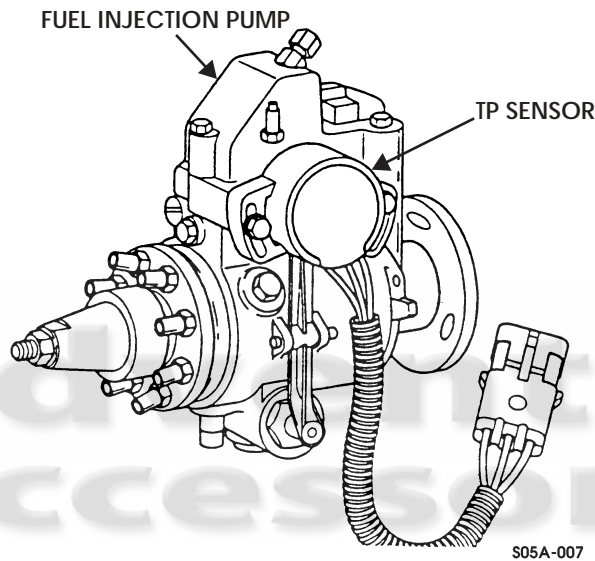

Figure 5-4: Throttle Position Sensor
The Throttle Position (TP) sensor is a potentiometer (a device for measuring an unknown voltage or potential difference by comparison to a standard voltage). The TP sensor sends a voltage to the TCM, varying from approximately 0.5 volts to approximately 5 volts. This voltage signal to the TCM represents throttle shaft angle. At closed throttle, the signal voltage to the TCM is approximately 0.5 volts. As the throttle shaft angle increases, the signal voltage increases to greater than 4.5 volts at wide open throttle. The TP sensor is attached to the fuel injector pump assembly (Figure 5-4).